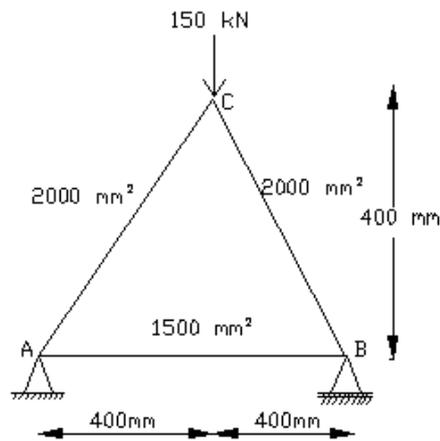

Fig.3
31. Consider a three bar truss as shown in Fig.3. It is given that $E = 2 \times 10^5 \text{ N/mm}^2$. [K₄]